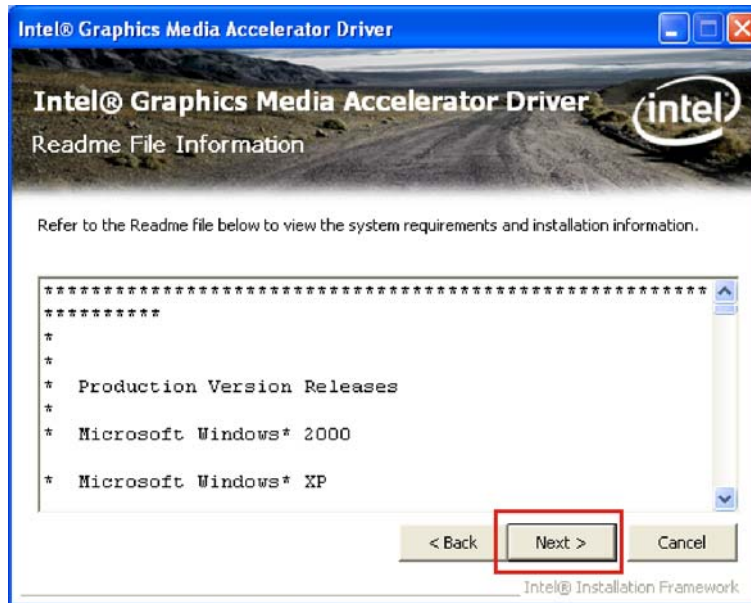

Figure 6-13: VGA Driver Read Me File
Step 11: The Readme file in Figure 6-13 appears.